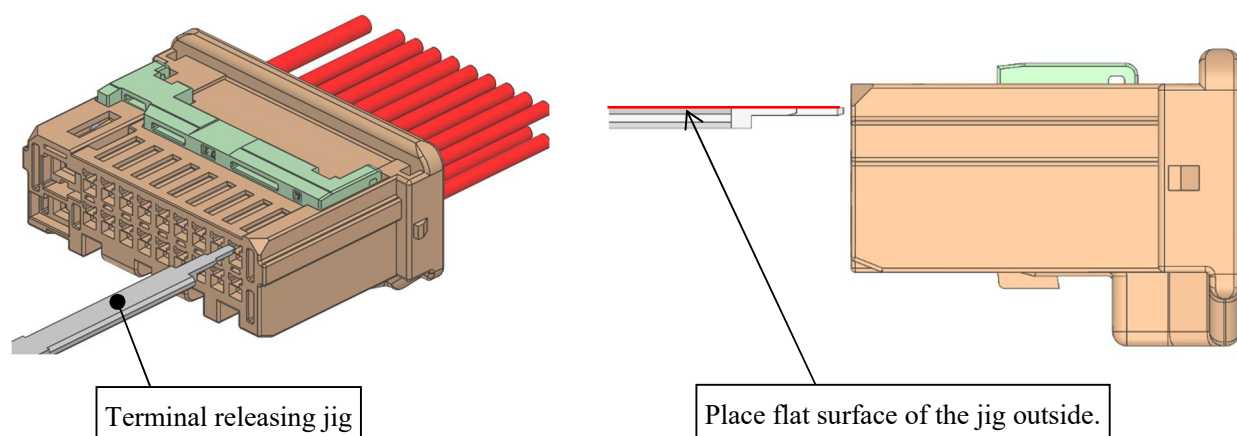

Fig31. Housing and Direction of release
- ① Ensure that the rear holder and the retainer have been removed.
- ② Hold the wire and push in the female terminal lightly. Place the female terminal releasing jig into the releasing apertures of the female housing (see Figs. 31 and 32).